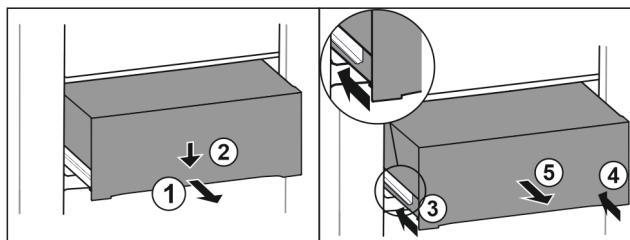

Fig. 163
- Pull out drawer half-way. Fig. 163 (1)
- Push the drawer down at the front. Fig. 163 (2)
- Push the left rail in by about 2 cm. Fig. 163 (3)
- Push the right rail in by about 2 cm. Fig. 163 (4)
- Remove drawer to the front. Fig. 163 (5)